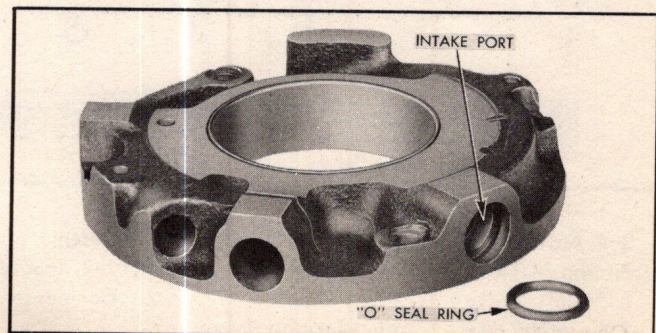

Fig. 22 Front Pump Intake Pipe "O" Seal Ring
4. Remove "O" seal ring from pump body intake port with a jack knife or similar instrument (Fig. 22). This seal should always be replaced since the slightest damage may effect front pump operation.